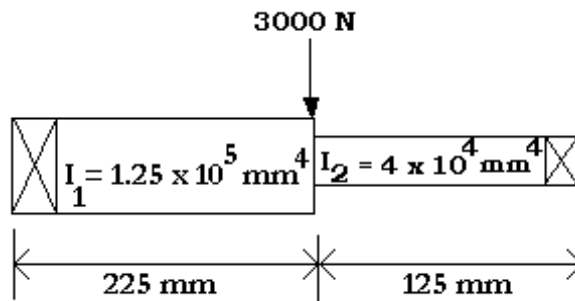

Figure 4
4. Find the deflection at the point of the load of the steel shaft as shown in figure4 : take $E = 200 \text{ GPa}$. [16]